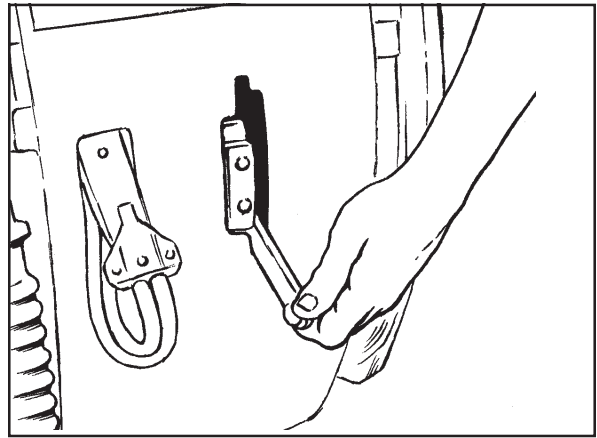

Figure 18
1. To lower the squeegee and start the vacuum motor, move the squeegee lever to the right and down. See figure 18.